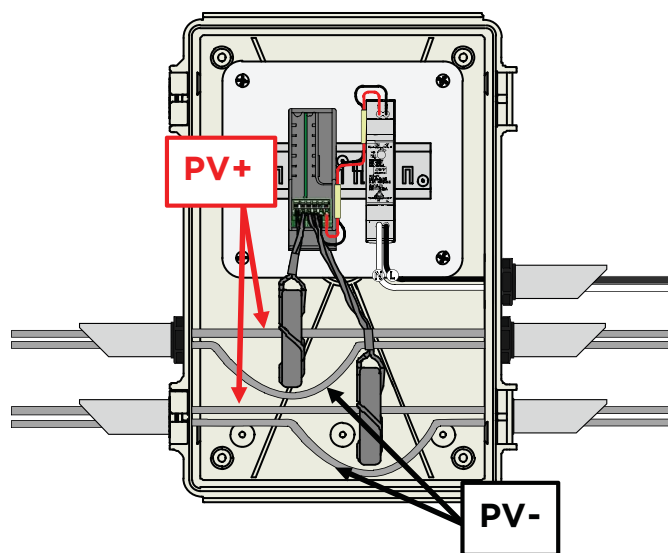

Figure 10
- Ensure that all strands of each stranded wire enter the terminal connection and the screw terminals are securely fixed to prevent poor contact. If the power supply possesses multi-Figure 10 output terminals, please make sure each contact is connected to wires to prevent too much current stress on a single contact.
- Only one polarity can pass through both coils (Figure 10). If you choose PV+ to pass through the coils, then PV- will pass around the coils.